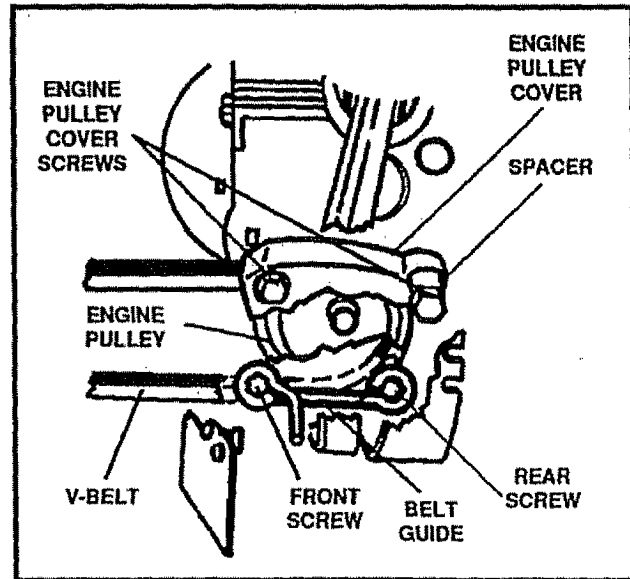

FIG. 10
- Remove the two top screws from the engine pulley cover (See Fig. 10) and remove the cover.
- Remove the front screw securing the belt guide (See Fig. 10) to the engine. Then loosen the rear screw and swing the belt guide away from the belt.